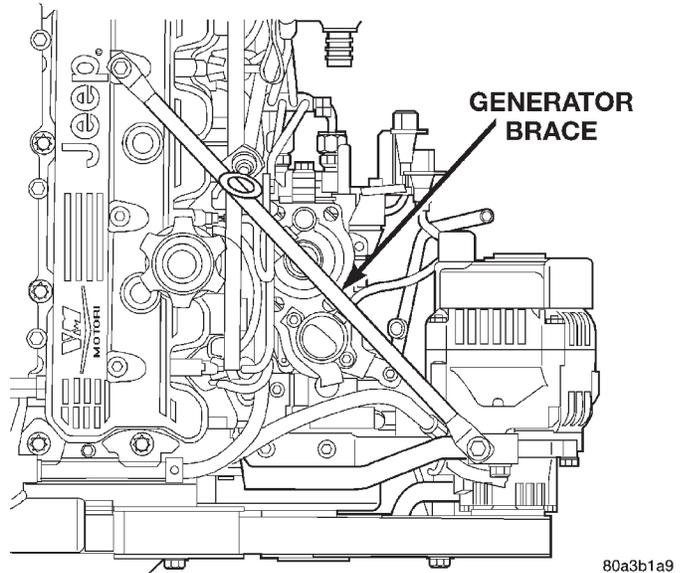

Fig. 12 Generator Brace
(2) Drain the cooling system (refer to Group 7, Cooling).
(3) Discharge the air conditioning system, if equipped (refer to Group 24, Heating and Air Conditioning for service procedures).
(4) If equipped with air conditioning, remove the A/C lines at the compressor and cap (refer to Group 24, Heating and Air Conditioning). Remove A/C line bracket attached to cylinder head cover, and move A/C lines away from cylinder head.
(5) Remove generator support brace (Fig. 12).
(6) Remove Crankcase breather hose from rear of the valve cover
(7) Remove the upper radiator hose and coolant tank hose.
(8) Remove water manifold.